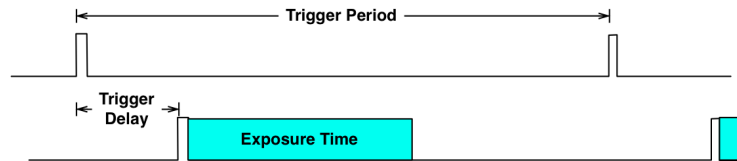

Figure 2-6. Trigger Period
To display a sequence of patterns, follow these steps and refer to Figures 2-6 and 2-7:
- Trigger Delay: number of microseconds delay after trigger is received and pattern is displayed. See Figure 2-6.
- Exposure Time: number of microseconds the pattern is displayed. Input 0 to display the pattern through the whole trigger period. See Figure 2-6.
- Trigger Period: number of microseconds delay between two consecutive patterns are displayed. See Figure 2-6.